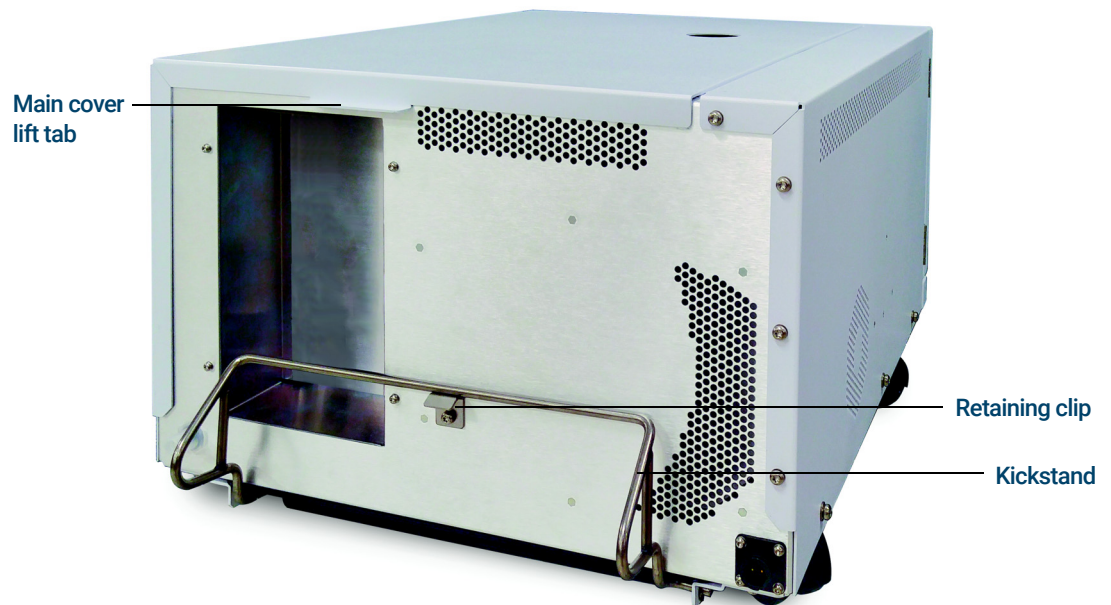

Figure 15. Releasing the kickstand
- 3 Release the kickstand from the retaining clip (**Figure 15**).